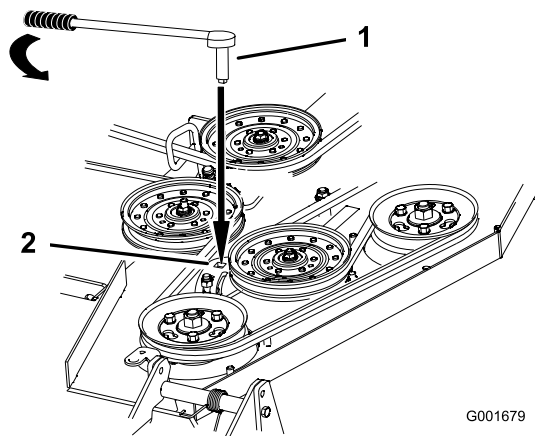

Figure 52
7. Insert a ratchet with a short extension or a breaker bar into the square hole in the fixed idler arm (Figure 52).